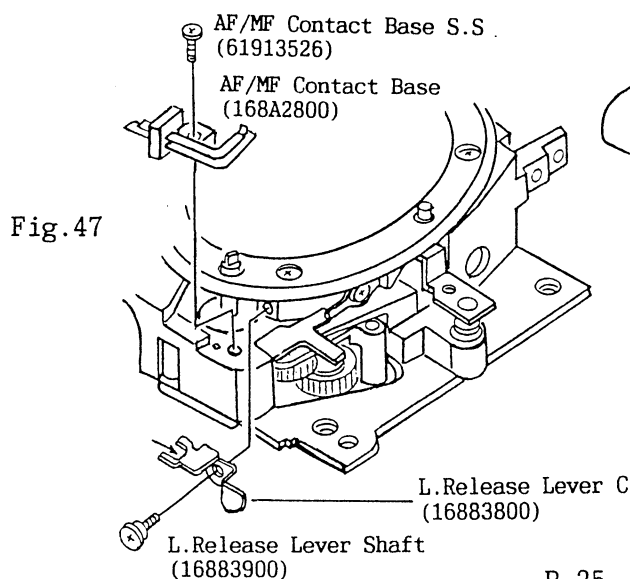

Fig.47
- 5) Remove the AF/ MF Contact Base Setscrew (61913526) and the AF/ MF Contact Base (168A2800). (See Fig.47)
- 6) Remove the L. Release Lever Shaft (16883900) and the L. Release Lever C (16883800). (See Fig.47)